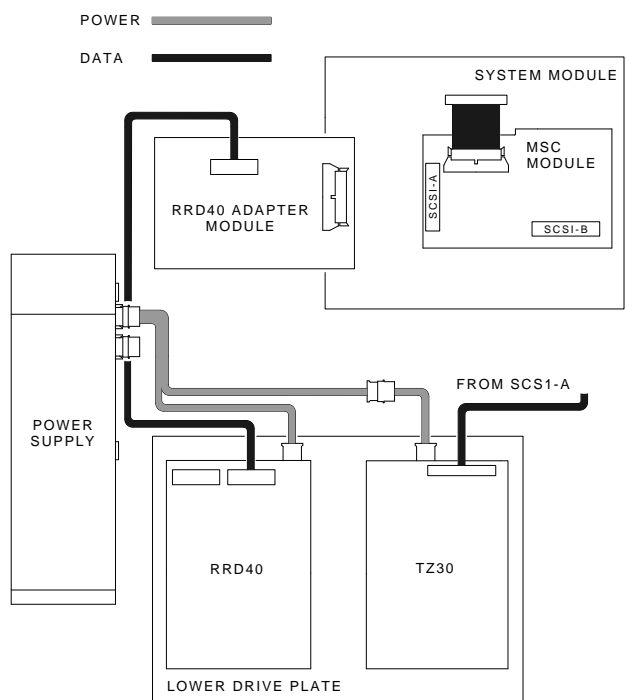

Figure 4-18 Lower Drive Mounting Plate Cabling
2. Connect the SCSI bus cables and the power cables to the TZ30 and the RRD40 compact disc drive (if installed). Connect the MSC cable to the MSC module (Figure 4-18).